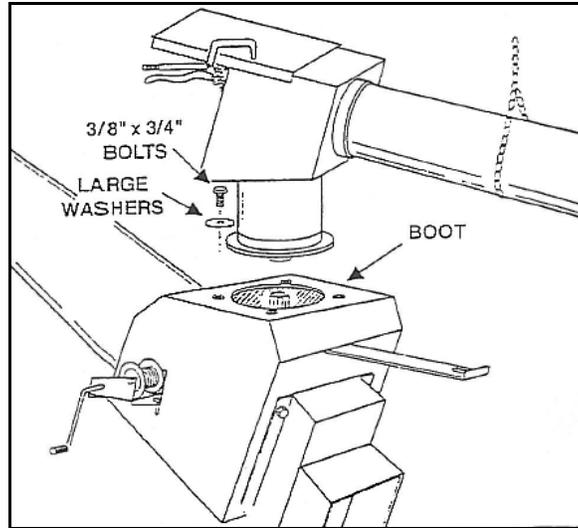

Figure 3
12. Install four large washers with 3/8" x 3/4" bolts to keep the intake hopper in place on the boot (Figure 3).